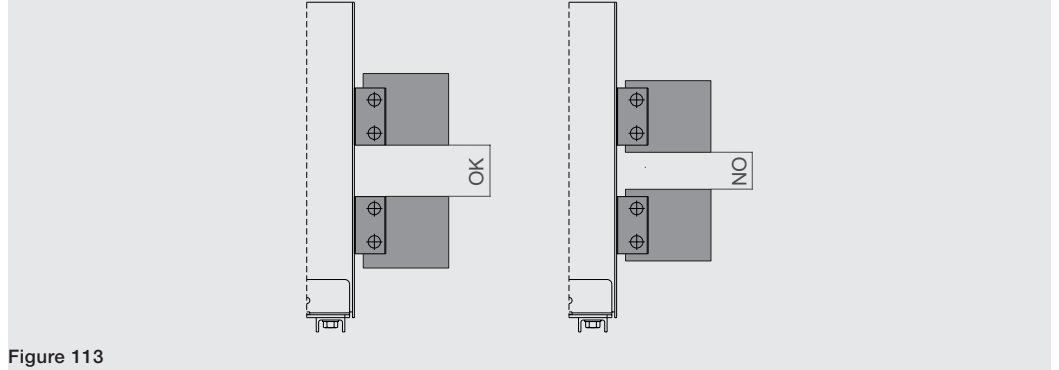

Figure 113
- Guarantee the maximum possible distance between the input and output busbars. See the example Figure 113.